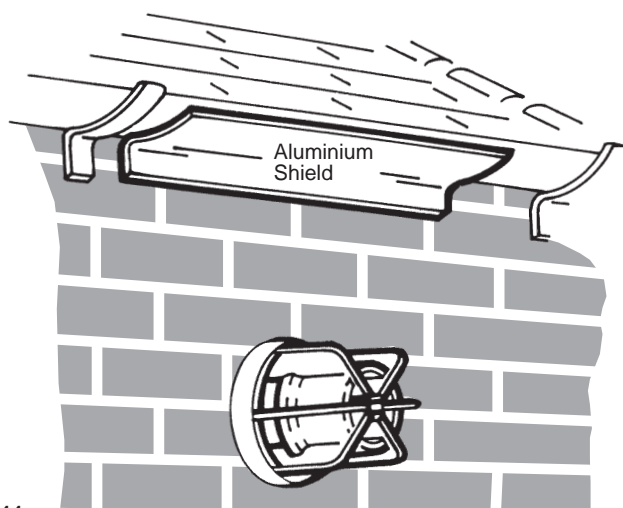

Fig. 11
3. If the terminal is fitted within 1 metre (39in) of a plastic gutter, within 500mm (19½ in) of a painted eave or a painted gutter, an aluminium shield of at least 1 metre (39in) long should be fitted to the underside of the gutter or painted surface. An air space of 5mm ($\frac{3}{16}$ in) should be left between shield and gutter (Fig. 11).